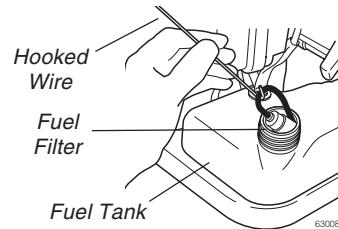

Figure 23
- FUEL FILTER Use a hooked wire to extract the fuel filter from inside the fuel tank. See Figure 23.